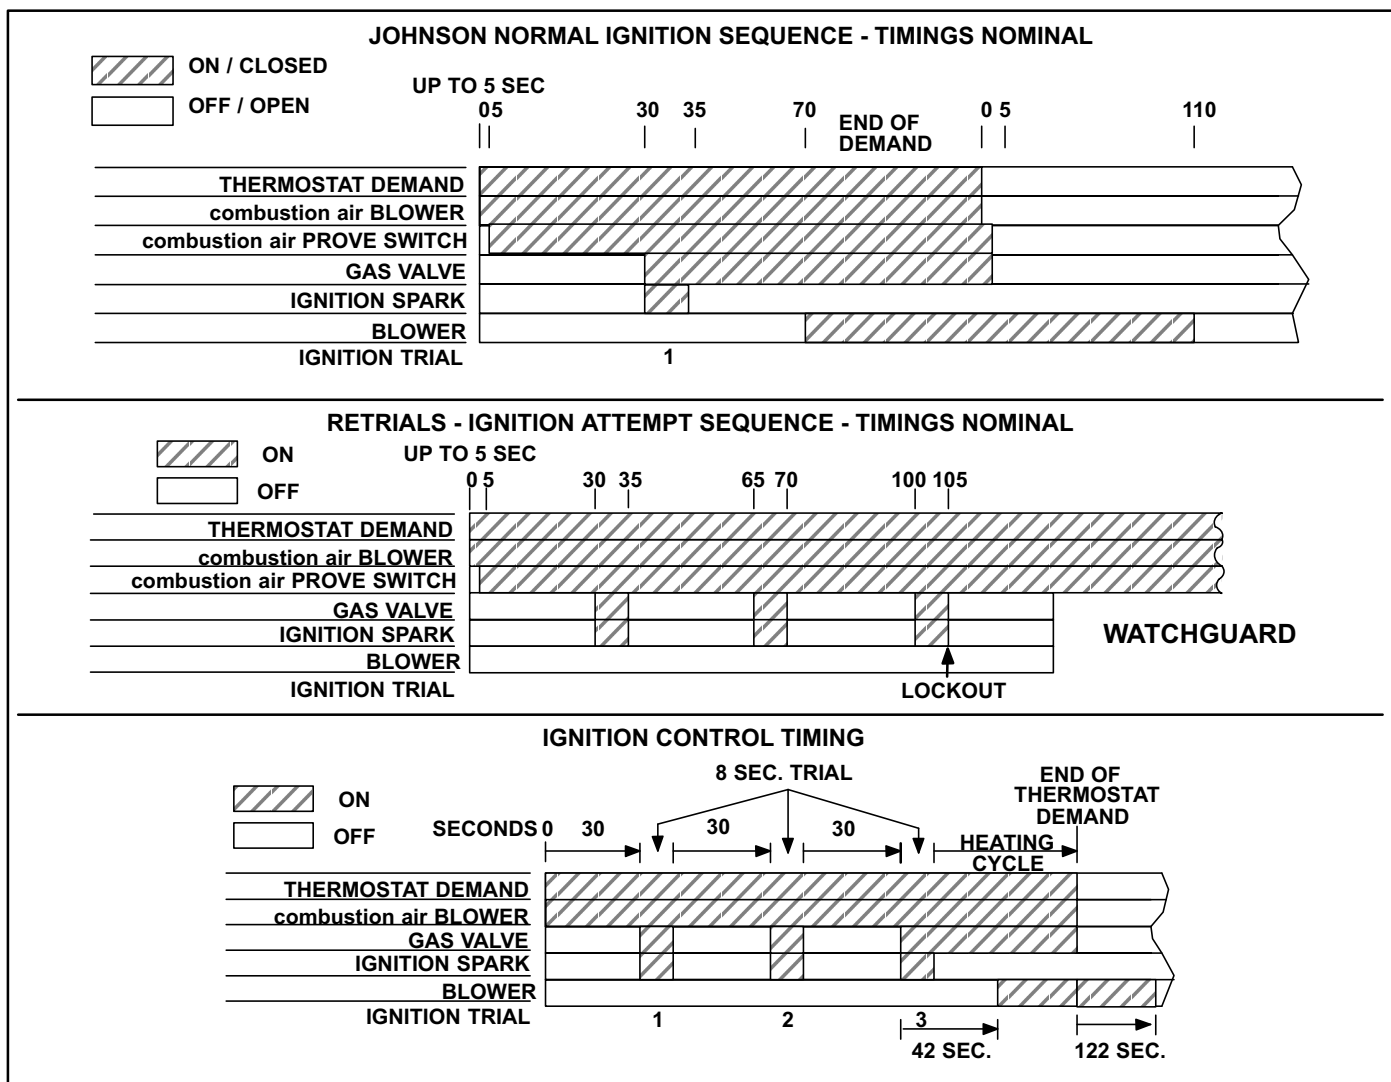

FIGURE 10
- a- The ignition control provides three main functions: gas valve control, ignition and flame sensing. It is powered only after the combustion air prove switch has closed and as long as other safety switch circuits are closed. The ignition attempt sequence provides three trials for ignition before locking out. The blower control (K25) is energized simultaneously with the gas valve, so the blower will energize 45 seconds after flame has successfully been established. The unit will usually ignite on the first attempt. See figure 10 for a normal ignition sequence with nominal timings for simplicity.
- b- Proper gas/air mixture is required for ignition on the first attempt. If there is any deviation, within tolerance of the unit, a second or third trial may be necessary for ignition. The control will lock out the heating system if ignition is not obtained within three trials and the (indoor) blower will not start. Reset after lockout requires only breaking and re-making thermostat demand. See figure 10 for the ignition attempt sequence with retries (nominal timings given for simplicity). Loss of flame during a heating cycle is indicated by an absence of flame signal. If this happens, the control will immediately restart the ignition sequence and then lock out if ignition is not gained within three trials.
- c- The specific timings for the Johnson ignition control are shown in figure 10.